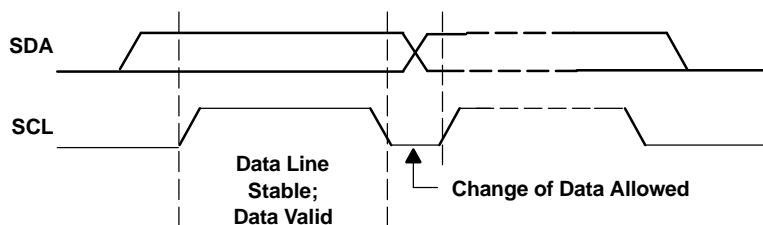
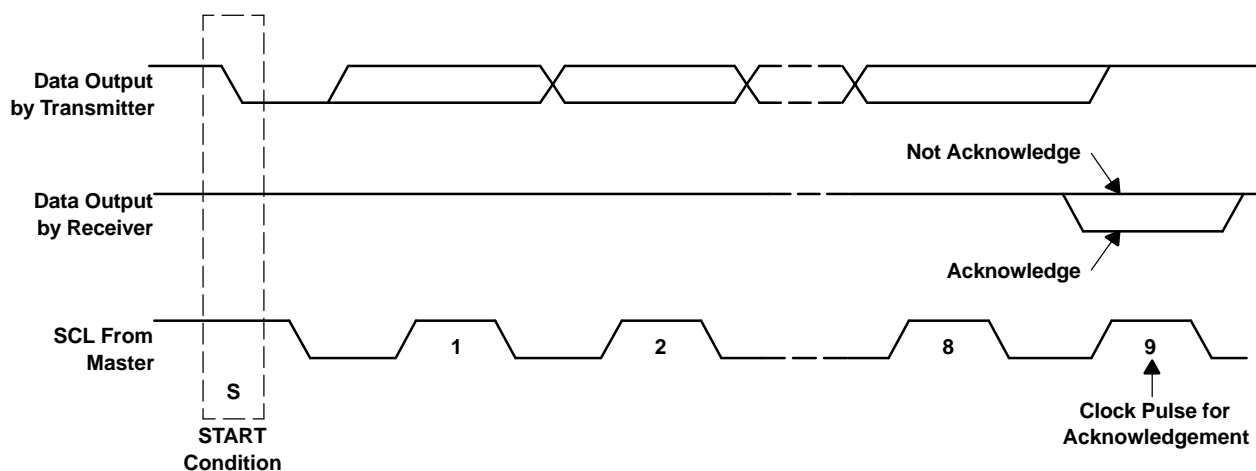

Figure 42. Bit Transfer on the I²C Bus
Figure 43. Acknowledge on the I²C Bus
- The master then generates the SCL pulses and transmits the 7-bit address and the *read/write direction bit* R/W on the SDA line. During all transmissions, the master ensures that data is *valid*. A *valid data condition* requires the SDA line to be stable during the entire high period of the clock pulse (see Figure 42). All devices recognize the address sent by the master and compare it to their internal fixed addresses. Only the slave device with a matching address generates an *acknowledge* (see Figure 43) by pulling the SDA line low during the entire high period of the ninth SCL cycle. On detecting this acknowledge, the master knows that a communication link with a slave has been established.